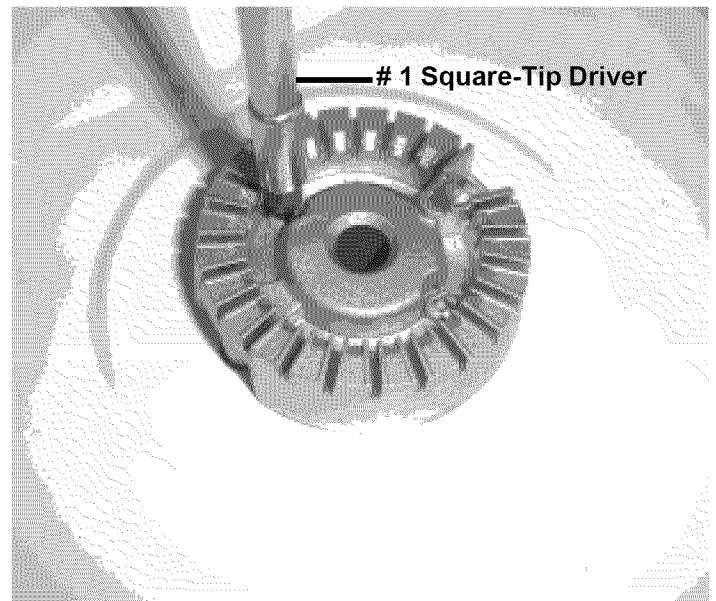

Fig. 5
- Replace burner heads at all locations and tighten each position with original screws using #1 square tip driver (Fig. 5). Heads **MUST** have a Burner Cap installed to insure proper ignition and gas flame size.